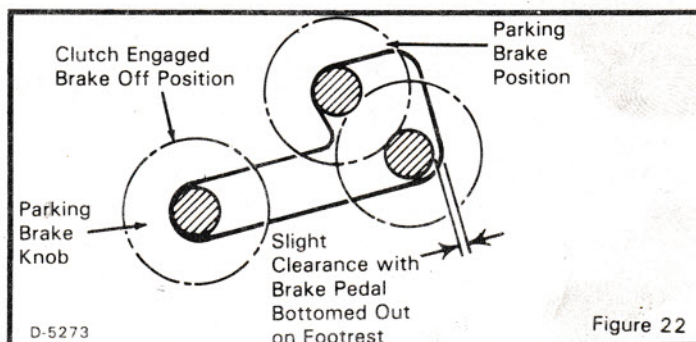

Figure 22
- Correct brake rod adjustment will result in a slight clearance between the parking brake knob and the forward end of the frame slot when the clutch/brake pedal is fully depressed (see figure 22).